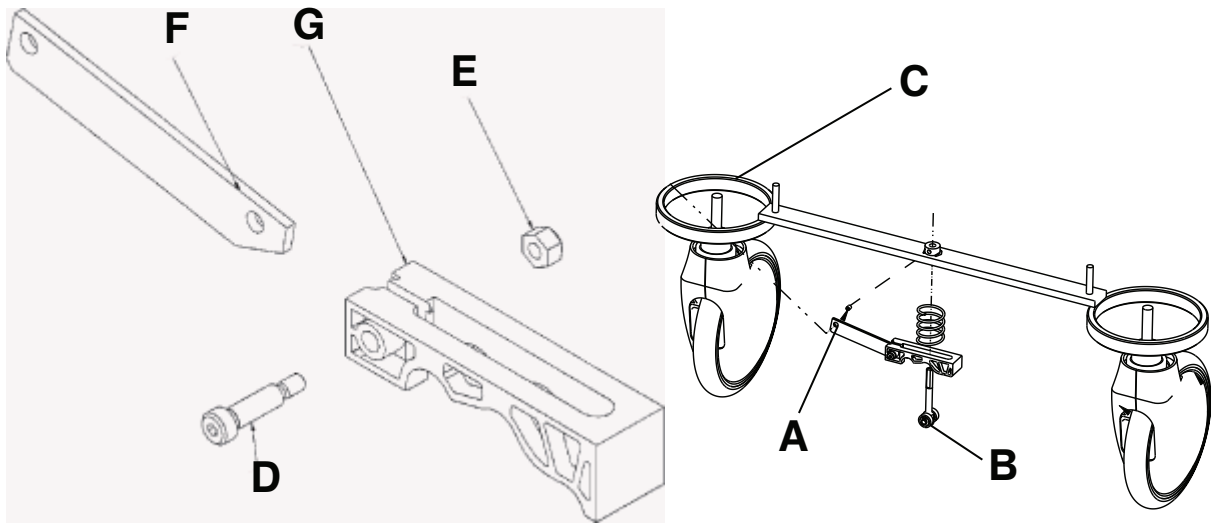

Figure 3 – Replacing the brake cam
3. Using a 3/32" hex wrench, loosen the set screw (A) that secures the brake adjuster (B) to the brake ring (C) (Figure 3). Turn the brake adjuster (B) clockwise to remove. Save the brake adjuster.